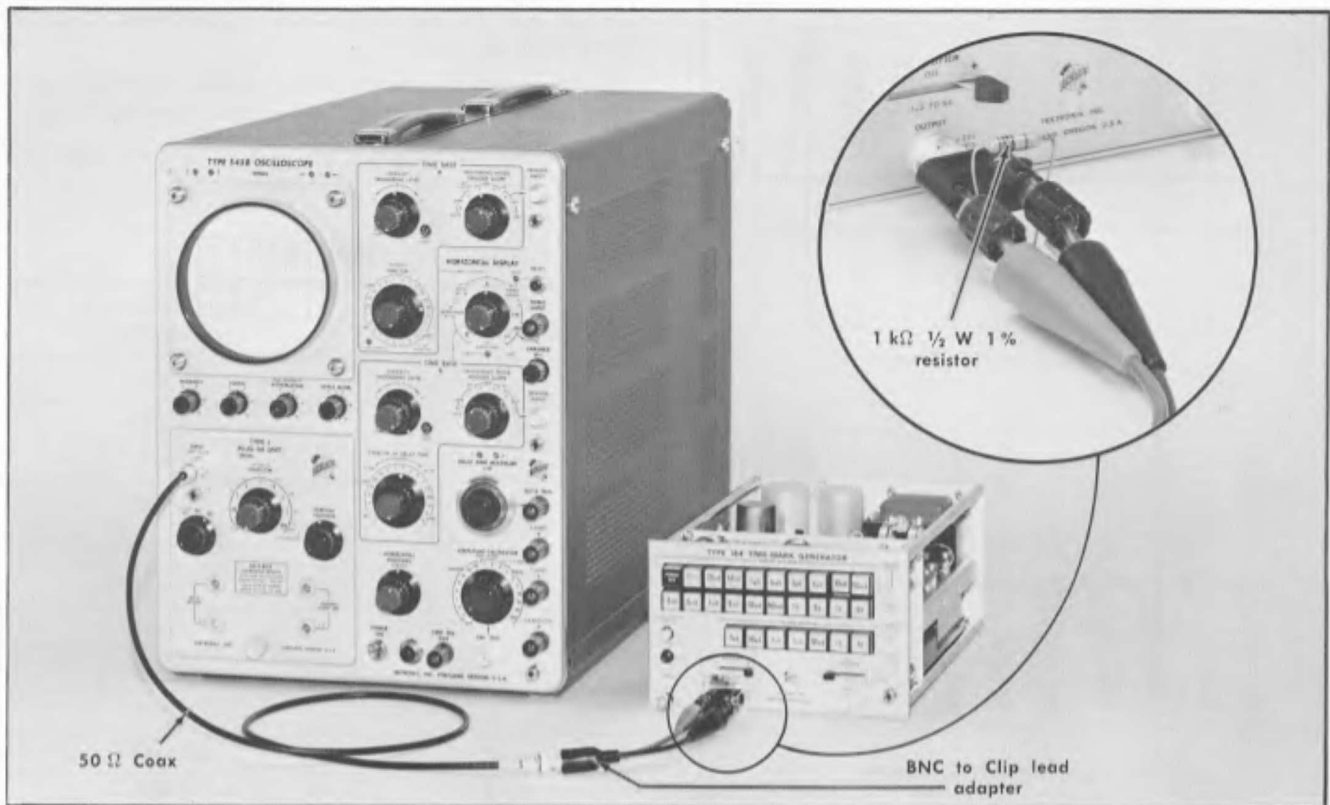

Fig. 6-13. Test equipment setup to measure Marker Amplifier signal amplitude. Step 8.
b. The Marker Amplifier must be terminated into a resistance of 1 k Ω . Test equipment setup is shown in Fig. 6-13.